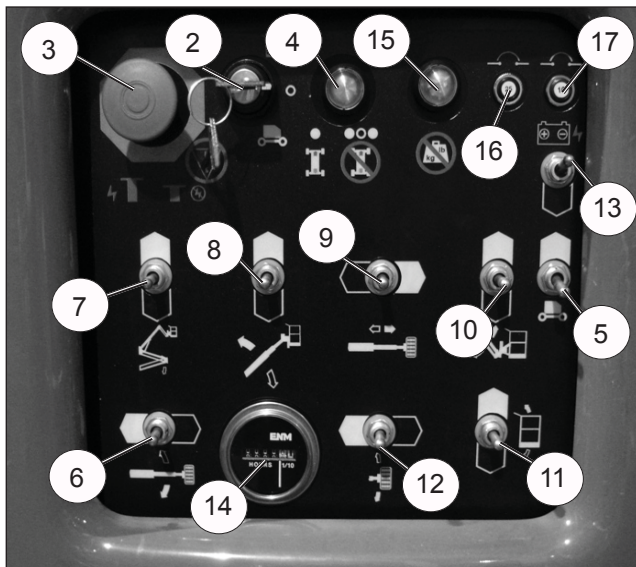

Figure 3 – Lower Controls and Indicators
5. Test each machine function (Jib, Riser, Platform Level, Platform Rotate, Lift, Slew, Telescope) from the lower control station by holding the ground operation switch up while operating the control toggle switches (ref: Figure 3 on page 6).
Use the following procedure to operate boom, turntable, or platform functions using the lower controls (ref: Figure 3 on page 6).